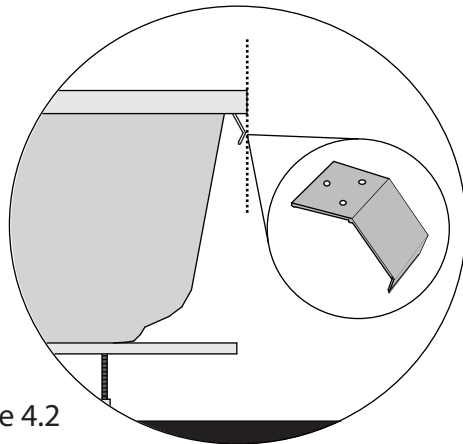

Figure 4.2
2. The front of the End Top Bracket (Part H) should be positioned to hold the End Panel in alignment with the edge of the Bath (Part J) Fig 4.2